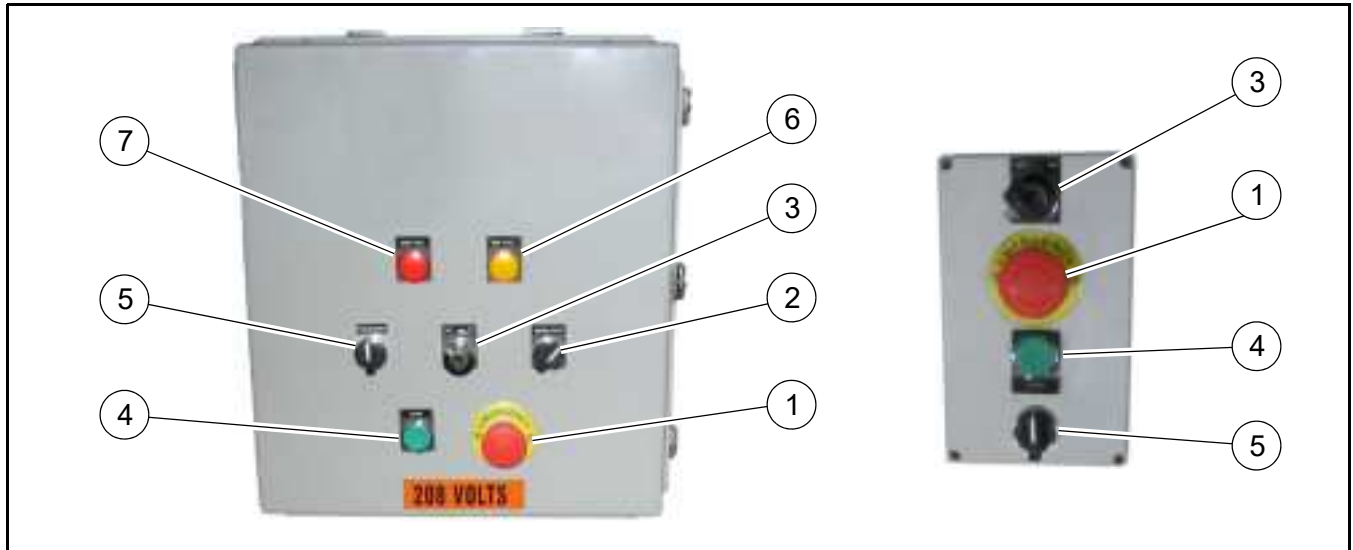

Figure 10
2. Pull UP on the EMERGENCY Switch (**Figure 10, 1**) to enable the Compactor controls.
3. Insert key in OFF/ON Security Switch (**Figure 10, 3**) and turn clockwise to ON position.
4. Determine pack mode and make selection on MANUAL/AUTO Switch (**Figure 10, 2**).
1. Depress the START Button (**Figure 10, 4**) for 1 to 2 seconds, then release.
1. The FWD/OFF/REV Switch (**Figure 10, 5**) is normally in the OFF position.
There are two container full lights located at the top of the control panel cover. The yellow 80% FULL light (**Figure 10, 6**) indicates when the container is approximately 80% of full capacity. The red 100% FULL light (**Figure 10, 7**) indicates when the container is full and has reached 100% capacity.